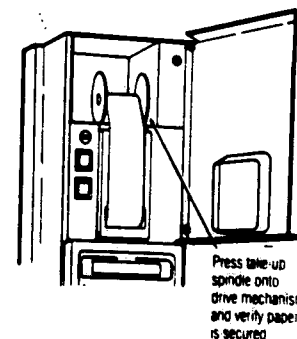

FIGURE 4-7 - Take-up Spindle in Place
13. Press take-up spindle back onto the drive mechanism and rotate to verify paper is secured to take-up roll (Figure 4-7).